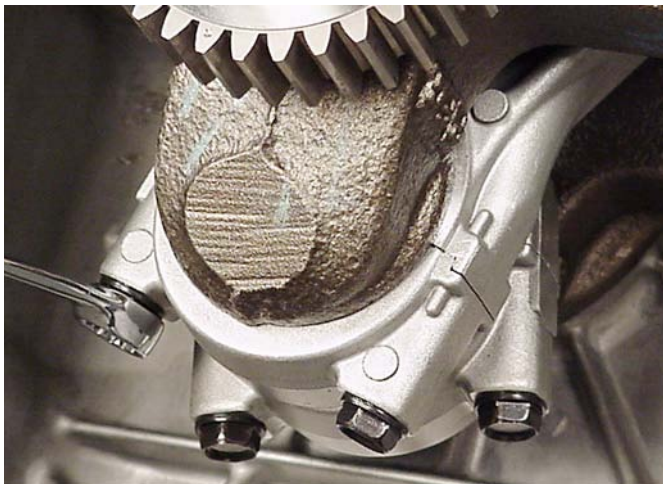

Fig. 62
1. Remove No. 2 connecting rod cap and push connecting rod and piston assembly out of cylinder, Fig. 62.